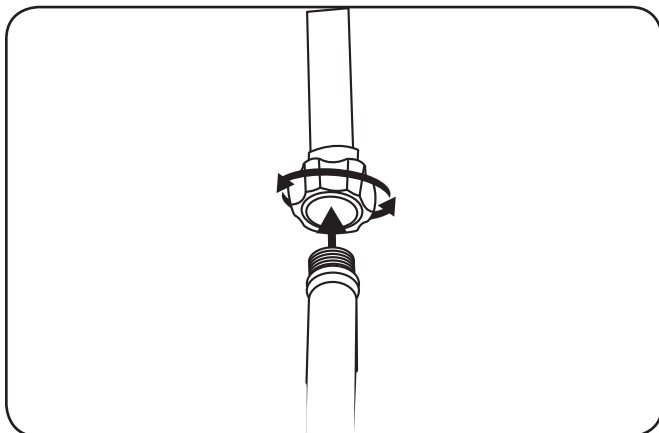

Figure 5-2
6. Connect water source to pump inlet. See Figure 5-2.